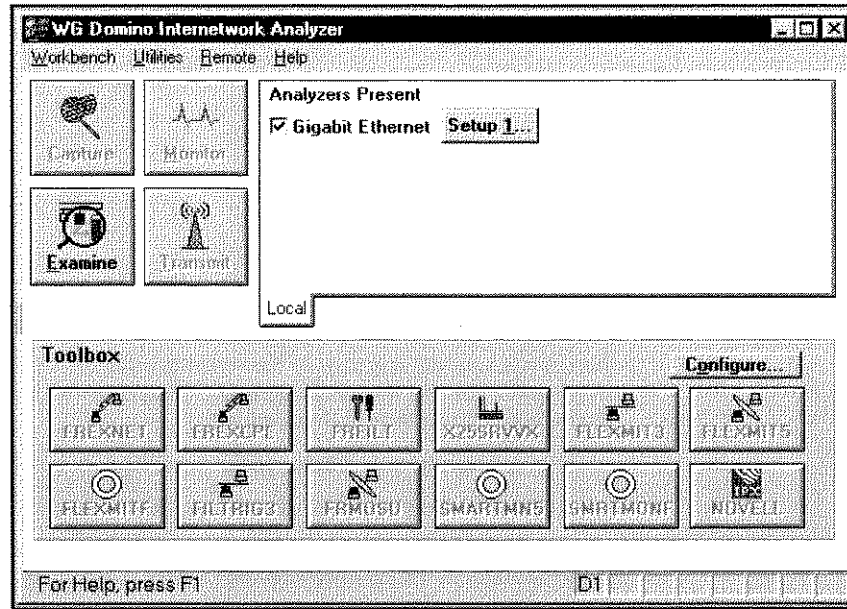

Figure 2-3. Domino Workbench screen with DominoGigabit analyzer installed
When you power up the DominoGigabit analyzer, the system performs a self-test and starts the system software. After the Microsoft Windows operating system starts, the Workbench screen (Figure 2-3) appears. If it does not, choose the Domino Core icon in the DominoNAS start-up group to open the Workbench screen.
1. From the Workbench screen (Figure 2-3), click the **Setup** button next to the DominoGigabit interface that you want to configure.